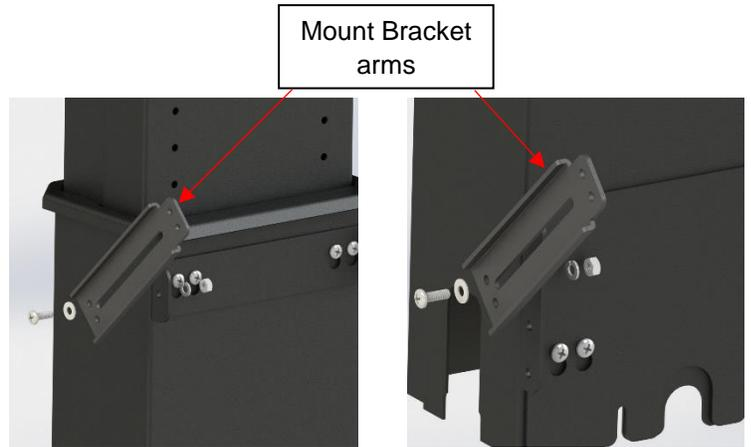
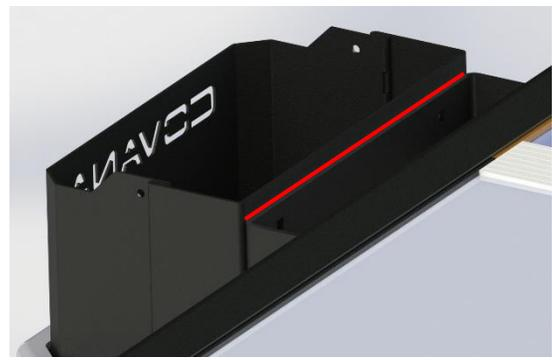

Figure 86
Figure 87
- 2) Install the top and mount bracket arms on one of the sleeves (Figure 86). Gently place the sleeve on the ground so it's in contact at the top with the post mount bracket (Figure 87). Make sure it is straight. With the sleeve and its arms, choose the position of the tub mount bracket. Put the top tub mount bracket 1/4" from the acrylic of the swim spa. Position the bottom one so the arms are as horizontal as possible.
- 3) Fasten the tub mount brackets properly and strongly to the swim spa's frame (Figure 86). If the swim spa is over 54" high (137 cm), install the extended tub mount bracket (Figure 87). Use the provided Phillips #10 x 3/4" screws for fastening.